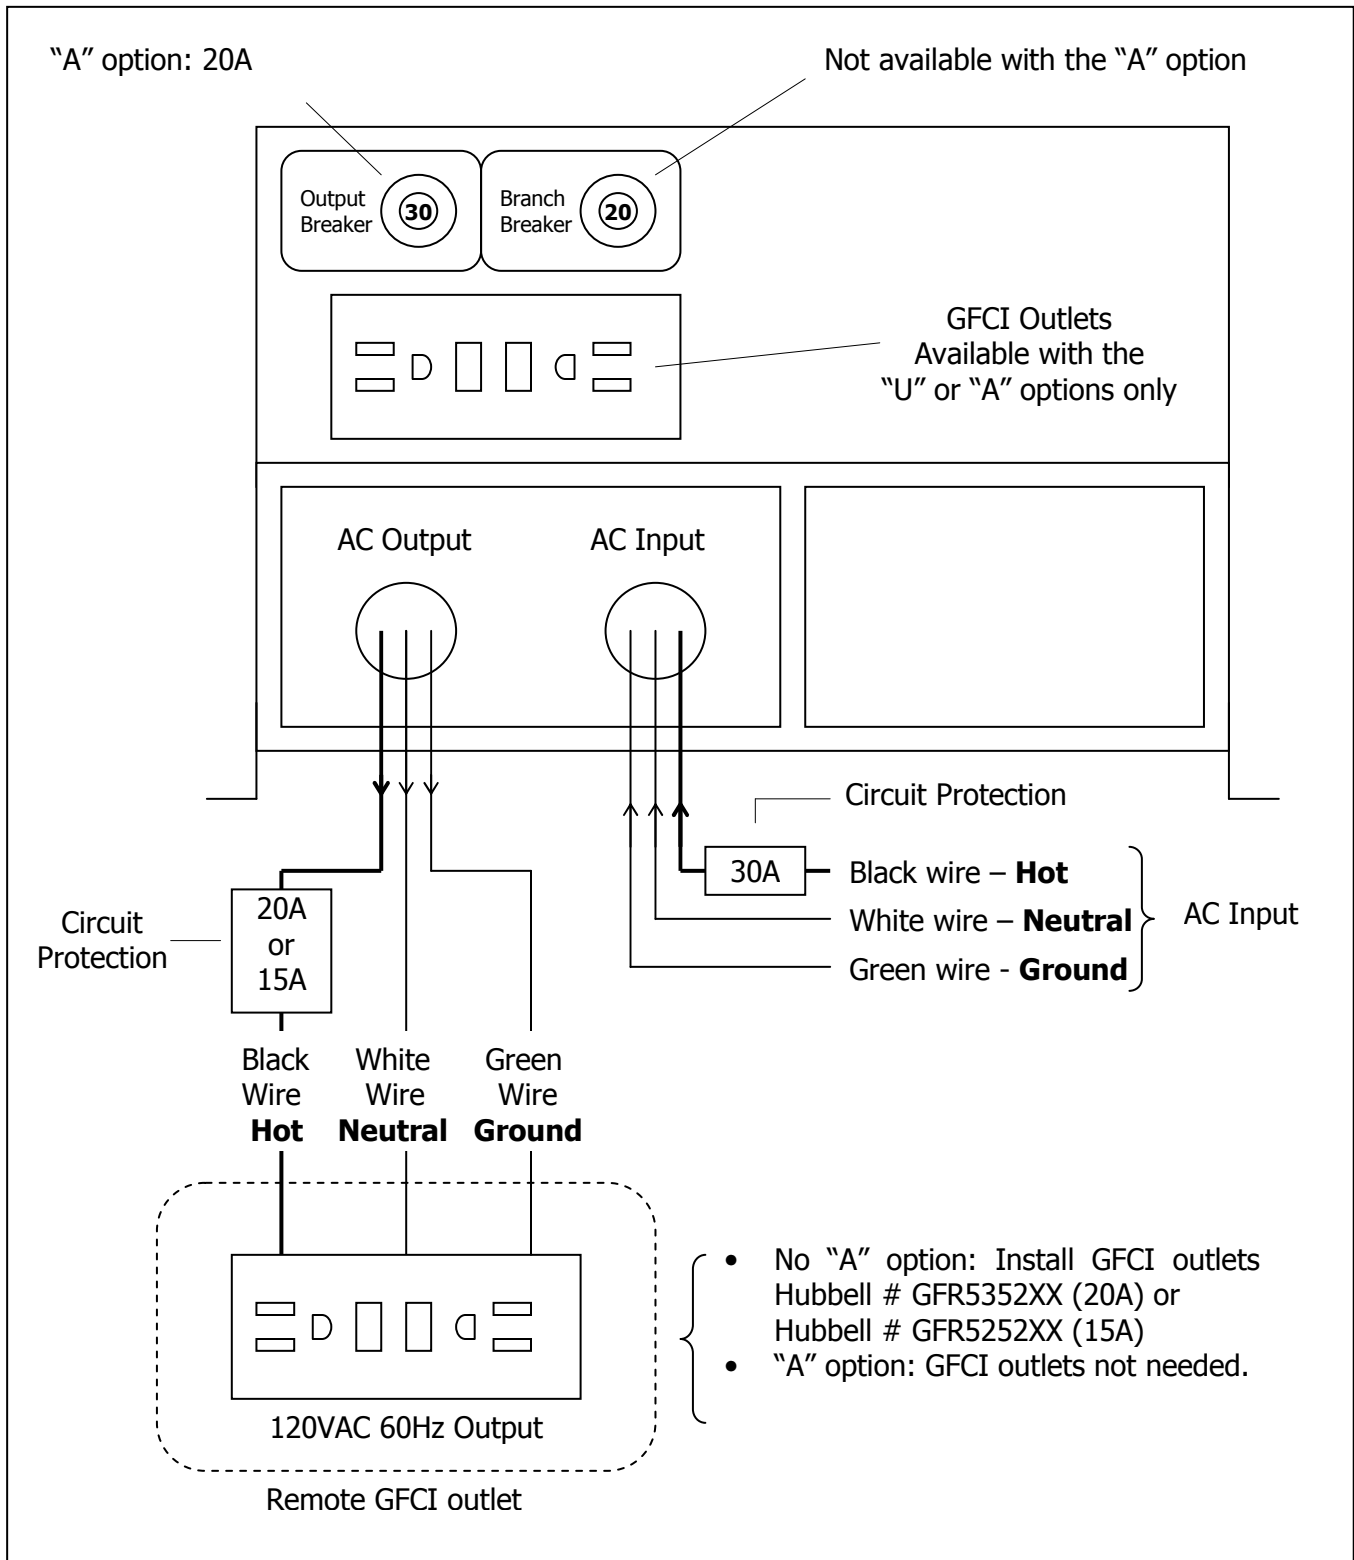

Figure 6: AC wiring diagram
- Refer to Figure 6: AC wiring diagram.